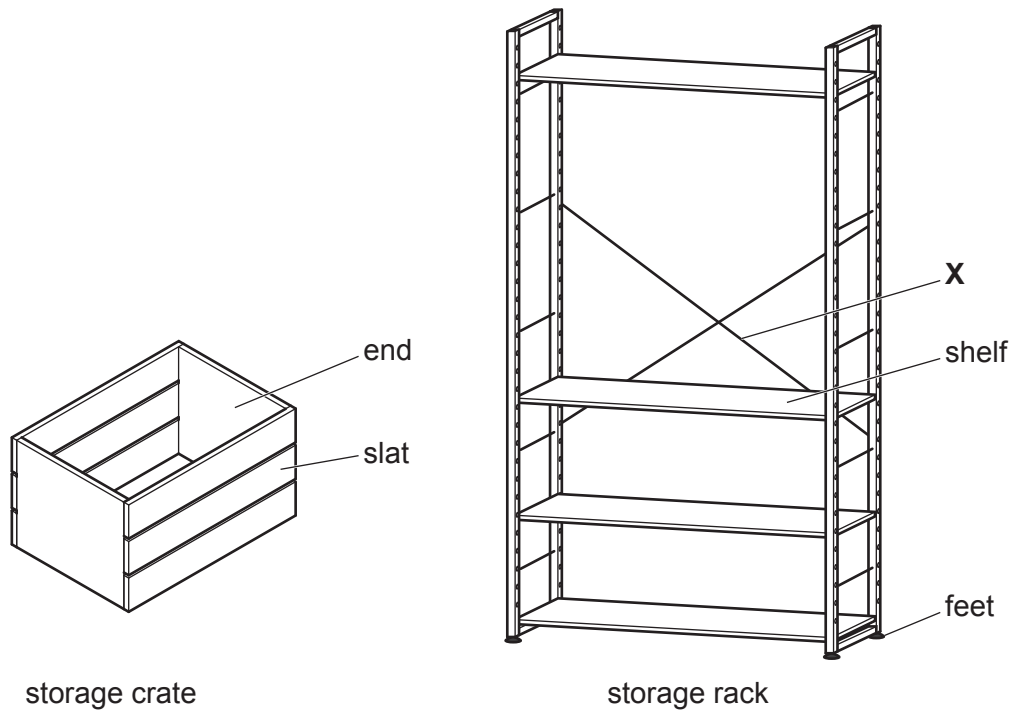

Fig. 5.1
- 5 Fig. 5.1 gives details of a storage crate and storage rack. The storage crate has MDF ends and corrugate slats that are joined together with PVA glue. The storage rack has adjustable shelves and feet.